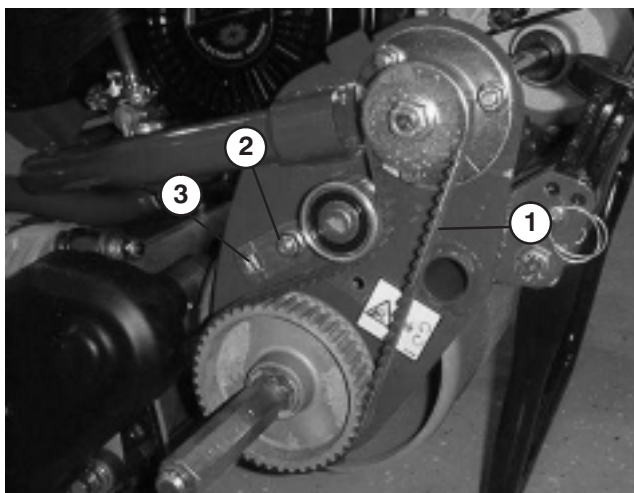

Figure 47
B. Using a 3/8 in. drive torque wrench, rotate the idler bracket with 35–40 in.-lb. of torque to set belt tension (Fig. 47). Tighten the idler bracket mounting cap screw. **Do not over-tension belt.**